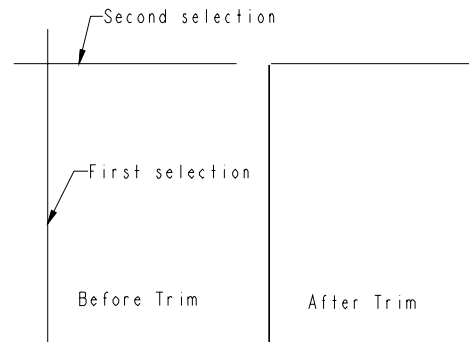

Figure 2-17 Trimming the lines
2. Click to select the two entities on the sides that you want to keep after trimming, see Figure 2-17. These two entities must be intersecting entities. The entities are trimmed from the point of intersection.